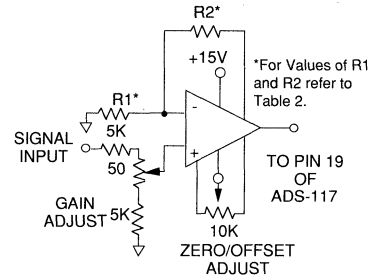
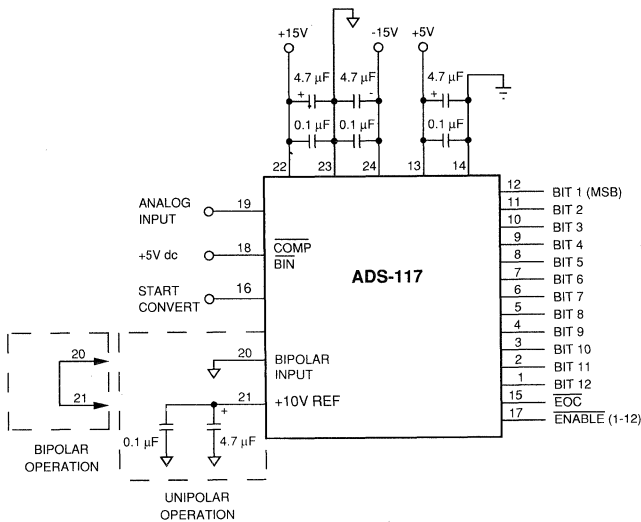

Figure 4. Optional Calibration Circuit
Figure 3. Typical ADS-117 Connection Diagram
1. Applications which are unaffected by endpoint errors or remove them through software will use the typical connections shown in Figure 3. Remove system errors or adjust the small initial errors of the ADS-117 to zero using the optional external circuitry shown in Figure 4. The external adjustment circuit has no effect on the throughput rate.
1. Connect the converter per Figure 3, Figure 4, and Table 2 for the appropriate full-scale range (FSR). Apply a pulse of 150 nanoseconds to the START CONVERT input (pin 16) at